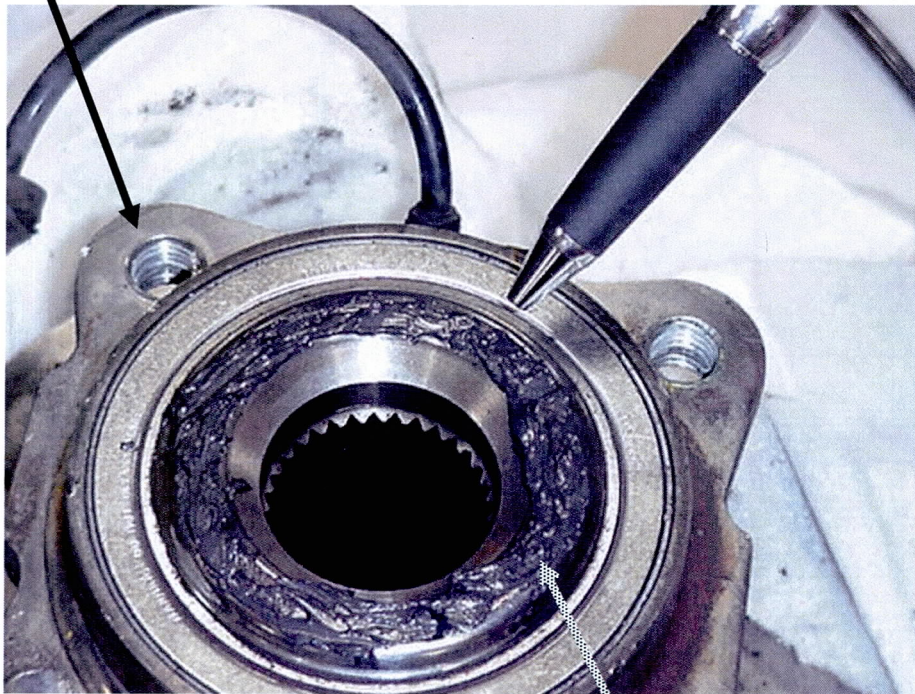

Figure 1
3. Apply a minimum of 1.0g of Molykote M77 Grease (P/N 44003-7S000CM) in an even coating to the bearing surface where it contacts the rear axle (see Figure 1).